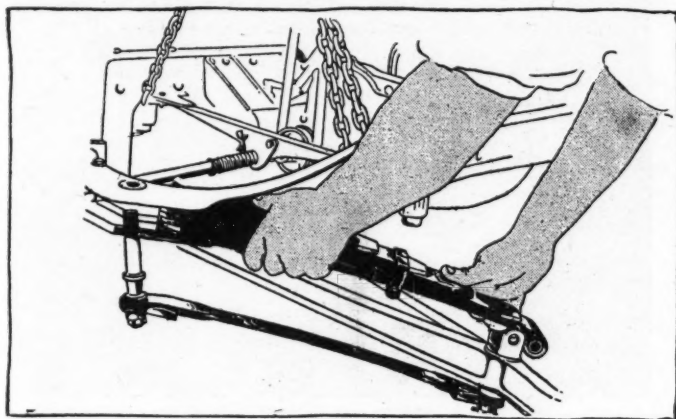

Fig. 3. Removal of front spring
7. Remove front spring as in Fig. 3. If spring leaves are to be replaced, remove front spring leaf retainer clip bolt and disassemble spring leaves. In assembling assemble leaves on spring bushing and rivet bushing slightly; clip leaves securely with retaining clip.